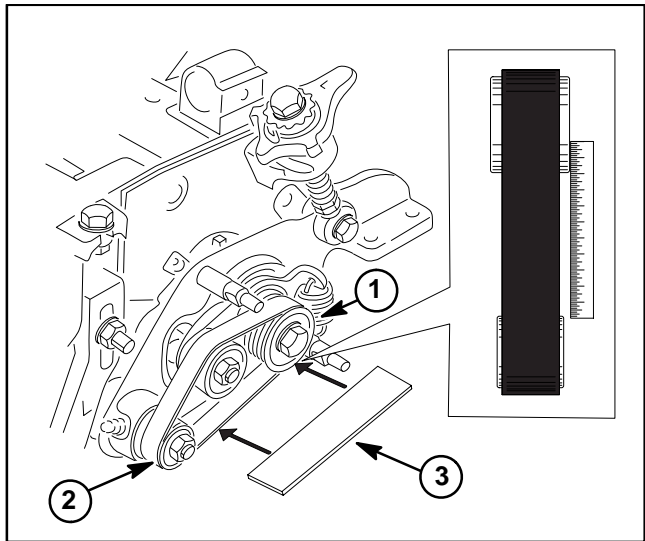

Figure 5
K. Check pulley alignment by laying a straight edge along the outer face of the drive pulley (Fig. 5). Drive and driven pulleys should be in line within **0.030" (0.70 mm)**. If necessary, align pulleys by removing driven pulley and installing or removing washer(s) between pulley and pulley spacer.